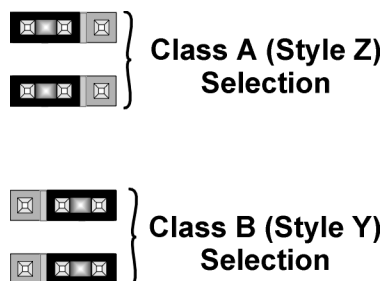
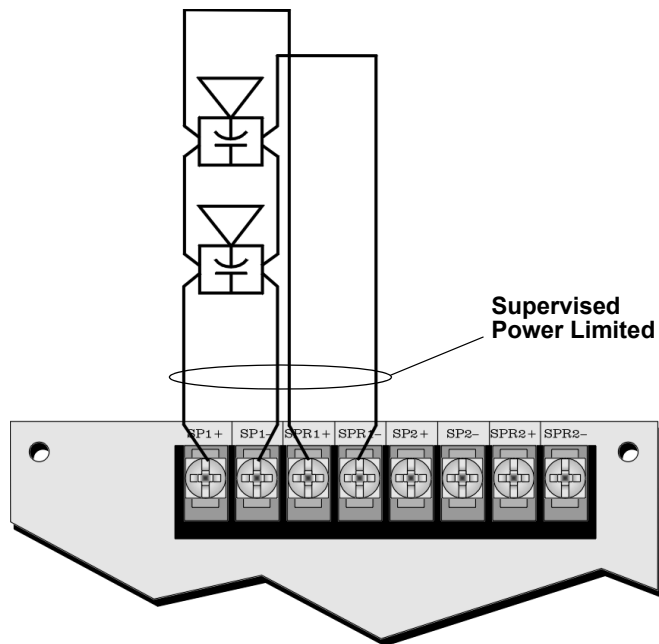

Figure 5-2 Speaker circuit Supervision Selections
**Figure 5-6 Class B (Style Y) Speaker Configuration**
Figure 5-6 illustrates how to wire speakers to the control panel using Class B (Style Y) supervision. Make sure that the Speaker Circuit Supervision Selector is in the Class B (Style Y) position. See Figure 5-2 for Speaker Circuit Supervision Selections.
**Note:** Figure 5-6 uses Speaker Circuit 1 as an example of the wiring. All other speaker circuits are configured to their respective terminals in the same manner.
Figure 5-7 illustrates how to wire speaker circuits to the control panel in a Class A (Style Z) configuration. Make sure that the Speaker Circuit Supervision Selector is in the Class A (Style Z) position. See Figure 5-2 for Speaker Circuit Supervision Selections.